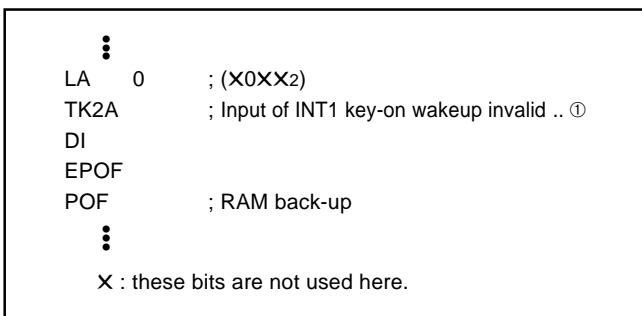

Fig. 70 External 1 interrupt program example-2
- When the input of INT1 pin is disabled (register I23 = "0"), set the key-on wakeup function to be invalid (register K22 = "0") before system enters to the RAM back-up mode. (refer to Figure 70①).